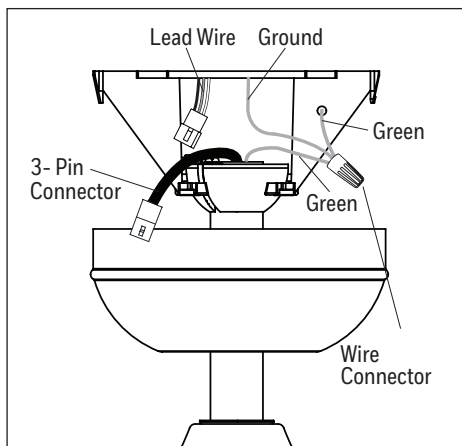

Figure 5.2
- Connect the 3-pin connector extending from the downrod to the 3-pin connector on lead wire. Then, use wire connector to connect the green/bare (ground) supply wire to the green wires from the downrod and the mounting bracket (Figure 5.2).